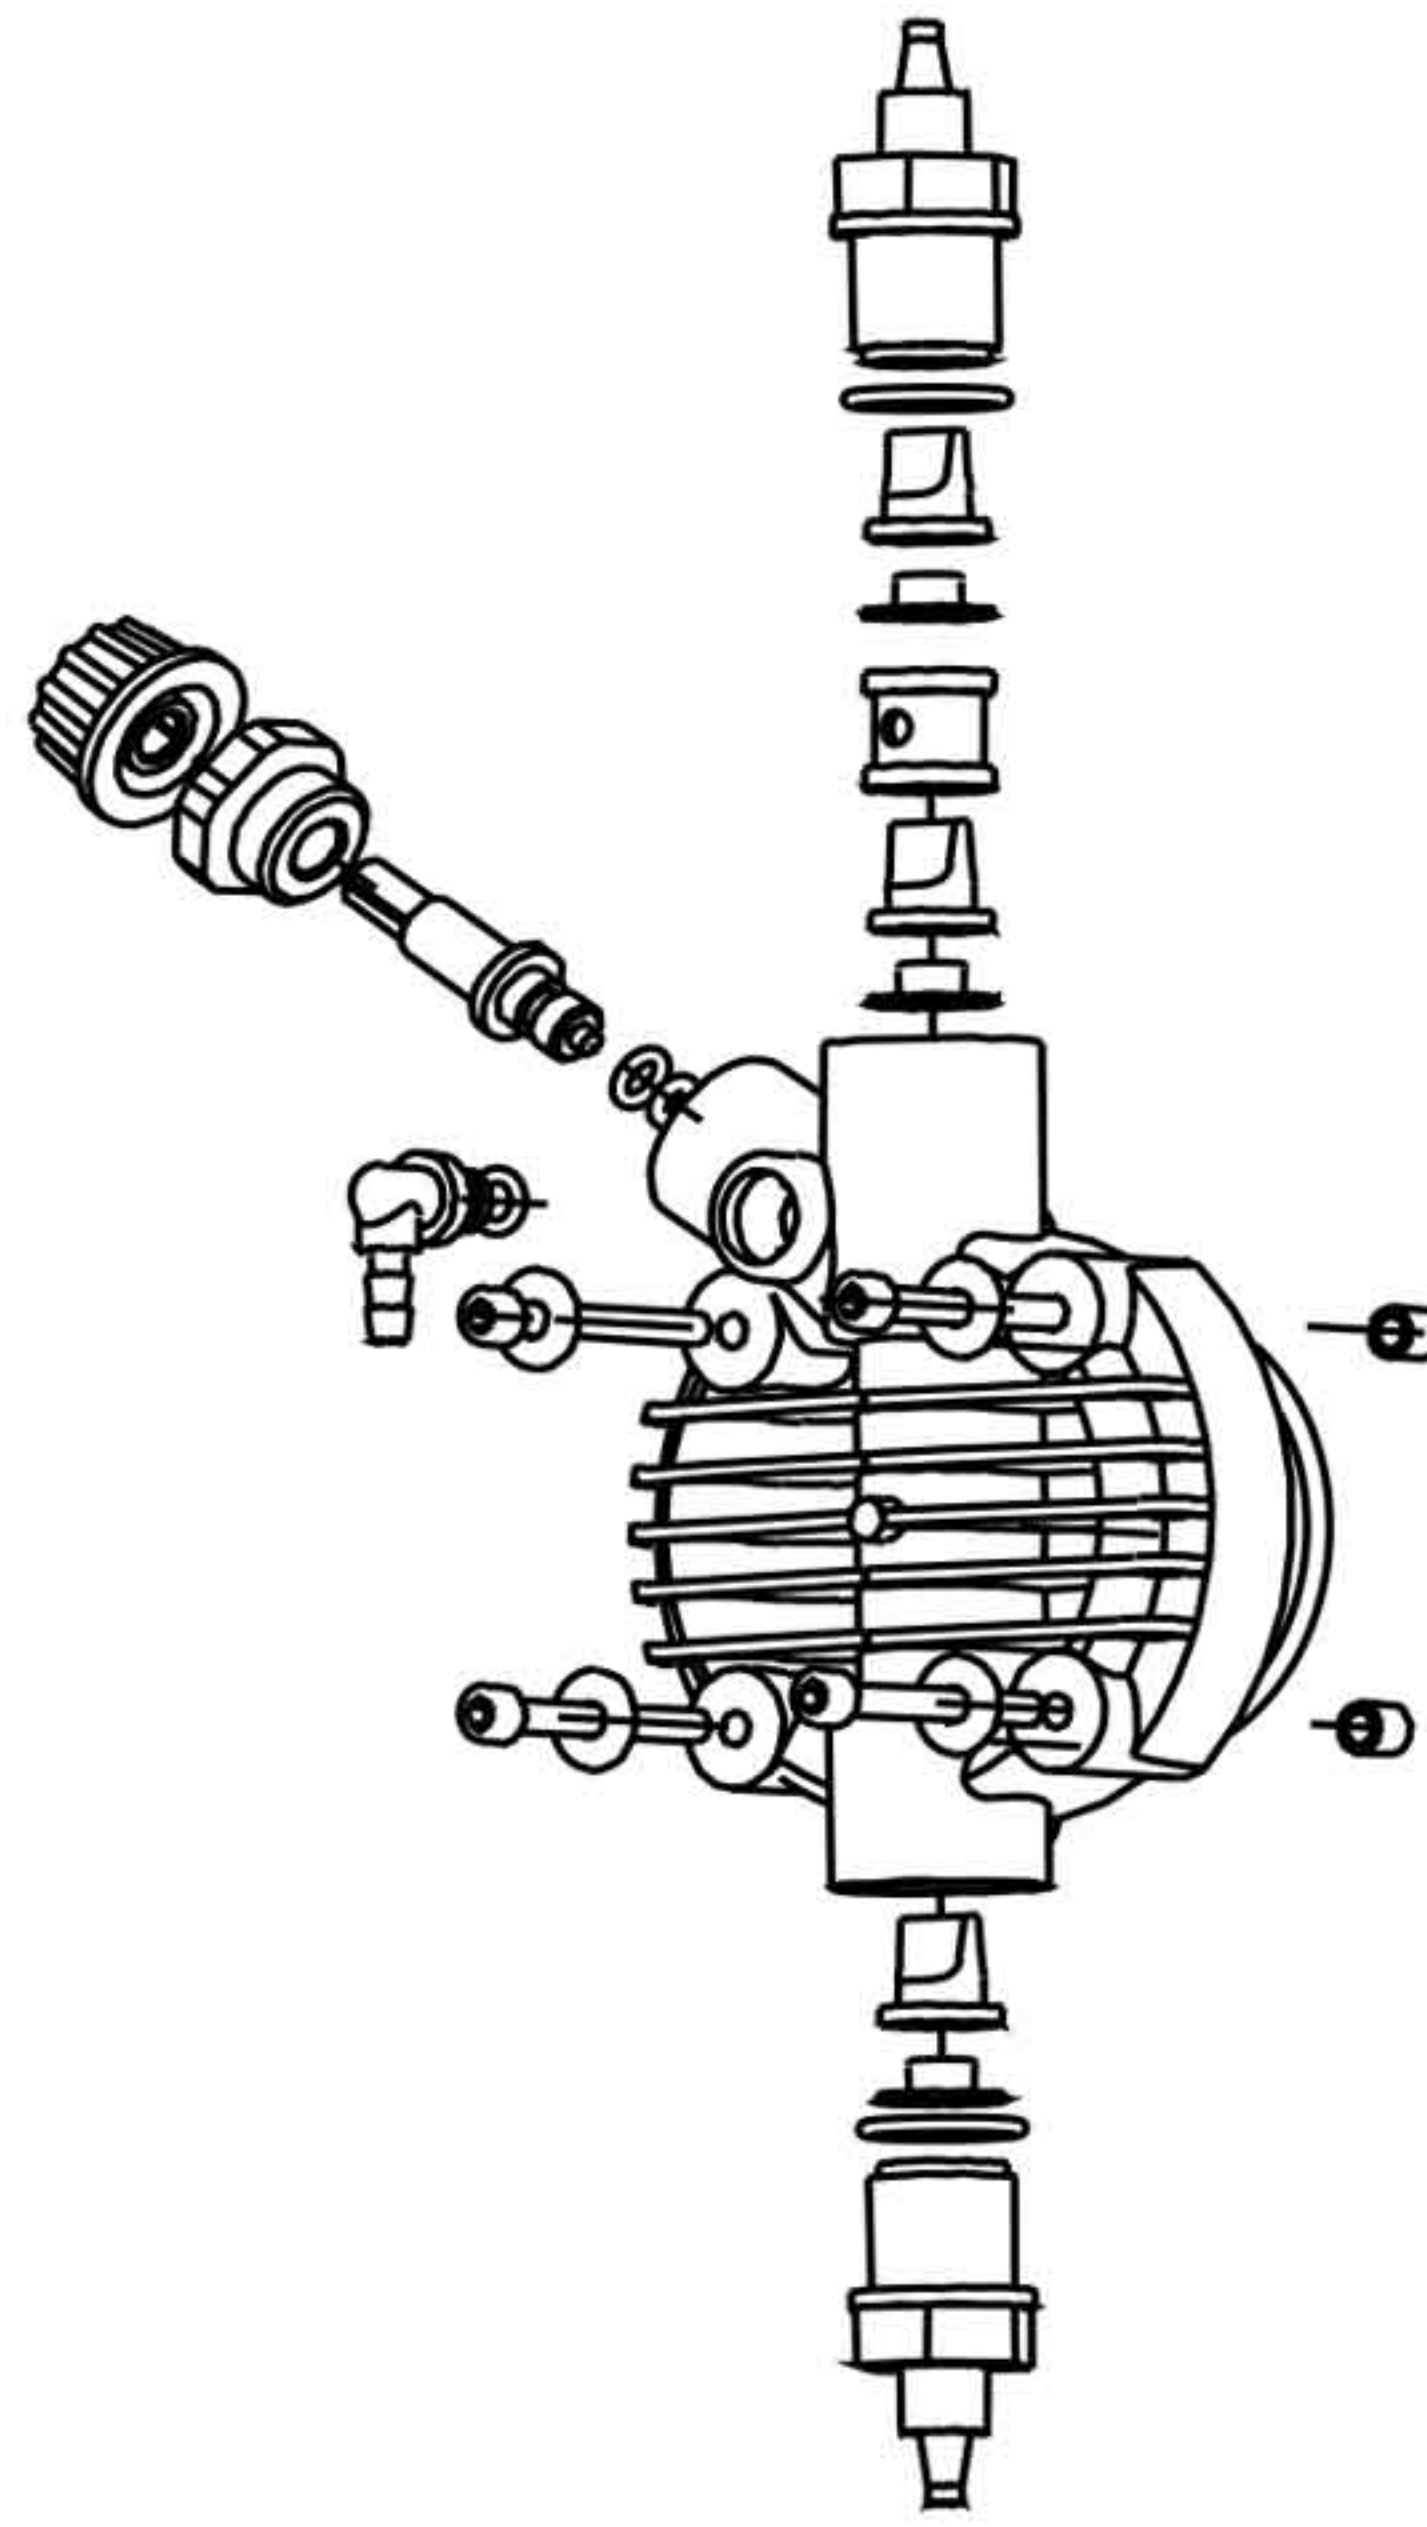

Fig. 10
3. Drain or flush all dosing liquid from the pump head. This operation can also be done with the pump disconnected from the plant by turning the pump upside-down for 15 to 30 seconds and without connecting the tubing to the nipples: if this operation is not possible, dismount and remount the pump head using the four mounting screws. (Fig. 10).
- the additive concentration in the pipework; a reduction of this concentration could be caused by the wearing of the valves, in which case they need to be replaced (Fig. 10) or by the clogging of the filter which then has to be cleaned as in point 3 here below.
This operation can also be done with the pump disconnected from the plant by turning the pump upside-down for 15 to 30 seconds and without connecting the hose to the nipples; if impossible, dismount and remount the pump head (Fig. 10) using the four mounting screws.
As the system is quite robust there are no apparent mechanical problems. Occasionally there might be a loss of liquid from the nipple because the tube nut has loosened, or more simply the discharge tubing has broken. Very rarely there may be losses caused by the breakage of the membrane, or by the membrane seals in which case they have to be replaced by disassembling the four screws of the pump head fig. 10), when re-mounting the pump head ensure that the screws are replaced properly, along with “O” ring. After repair, the metering pump will need to be cleaned of additive residues which can damage the pump casing.
❶ THE METERING PUMP GIVES PULSES BUT THE ADDITIVE IS NOT INJECTED
- a. Dismount the suction and discharge valves, clean them and replace, see position (fig. 10). Should the valves be swollen, check valves material against our chemical resistance compatibility chart and fit correct valves. Standard valves are Viton. Upon request ball check valve, can be supplied.